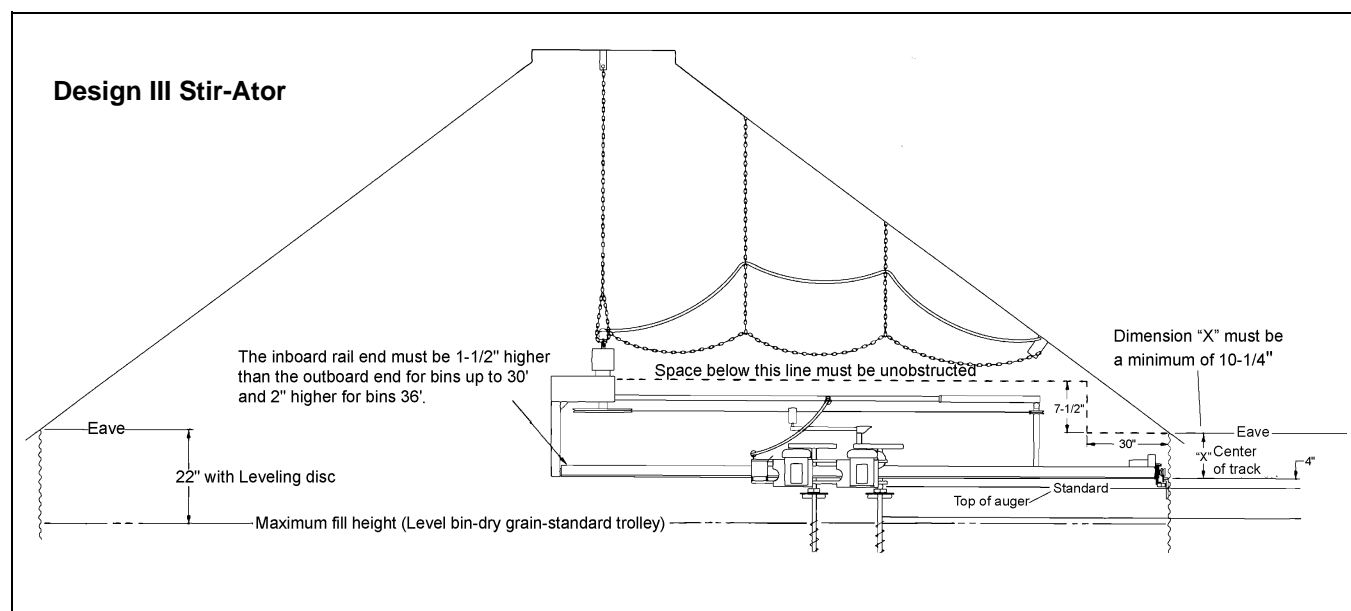

Figure 4B
1. The track is installed 10-1/4" distance from the eave of the bin to the center line of the track. Bins with steeply pitched or domed roofs may allow the 10-1/4" distance to be reduced; roofs with low or flat profiles may require more clearance. Reinforcements to the roof or roof ladder which might interfere with the movement of the Stir-Ator should be trimmed. (See Figure 4B.) If this cannot be done, the 10-1/4" distance from the eave to the track bolt center line must be **increased proportionately**.